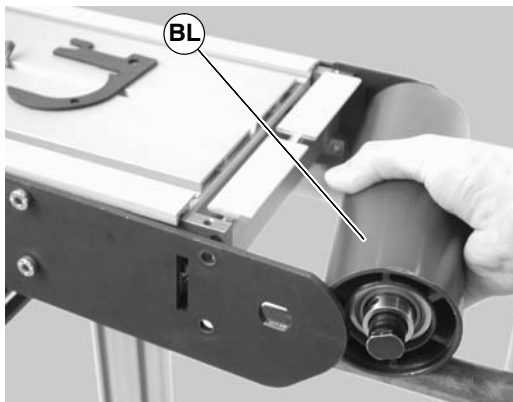

Figure 55
4. Slide the idler pulley assembly (BL of Figure 55) out of the headplate on the opposite side.